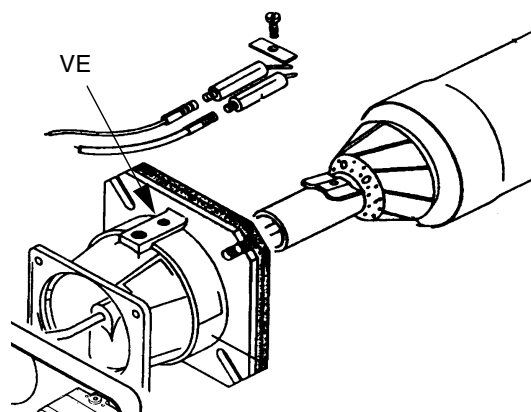

Fig. 18
- Remove, check and clean the combustion head (Fig. 18);
- To access the combustion head and the electrodes, slacken the screw VE (Fig. 18) on the blast tube and unthread it; provide a stable surface where lie the burner during maintenance operations.